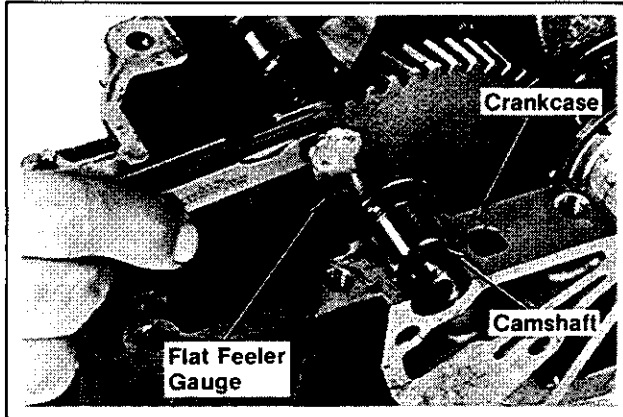

Figure 11-15. Measuring Camshaft End Play.
4. Measure the camshaft end play with a flat feeler gauge. The recommended camshaft end play is  $.003/.013$ ". Refer to Figure 11-15. Add shim spacers, if necessary, to bring end play within range.